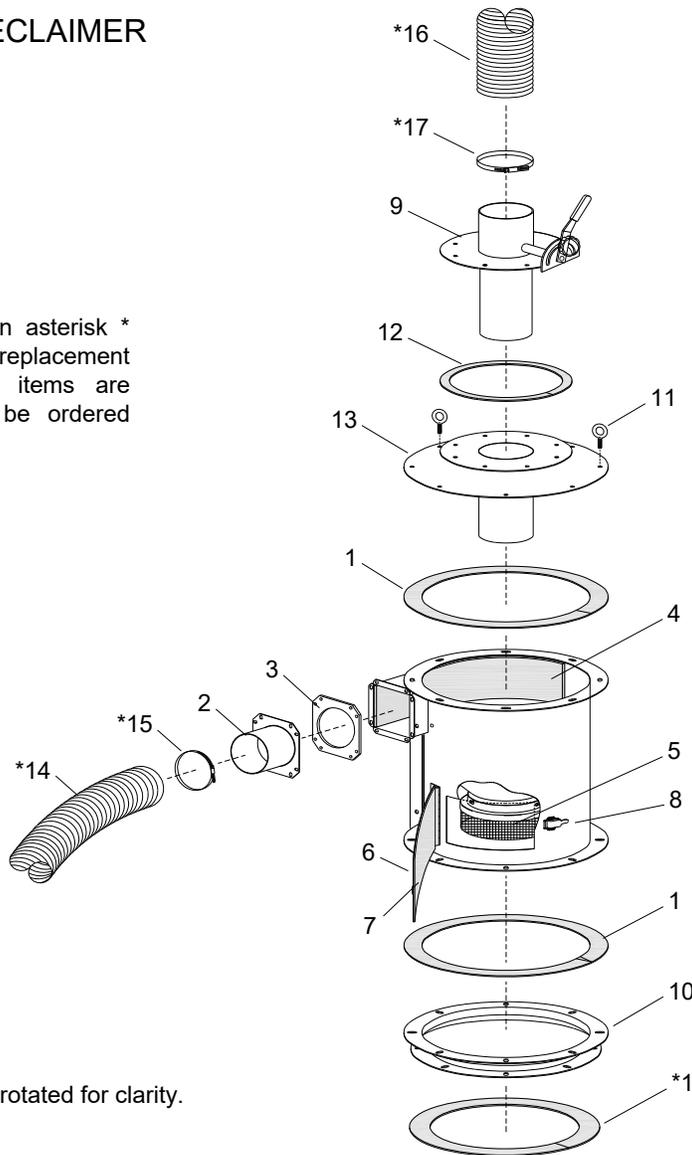

Figure 43
9.10 600 CFM Aerolyte Reclaimer, for 16" Dia. Blast Machine – Figure 43